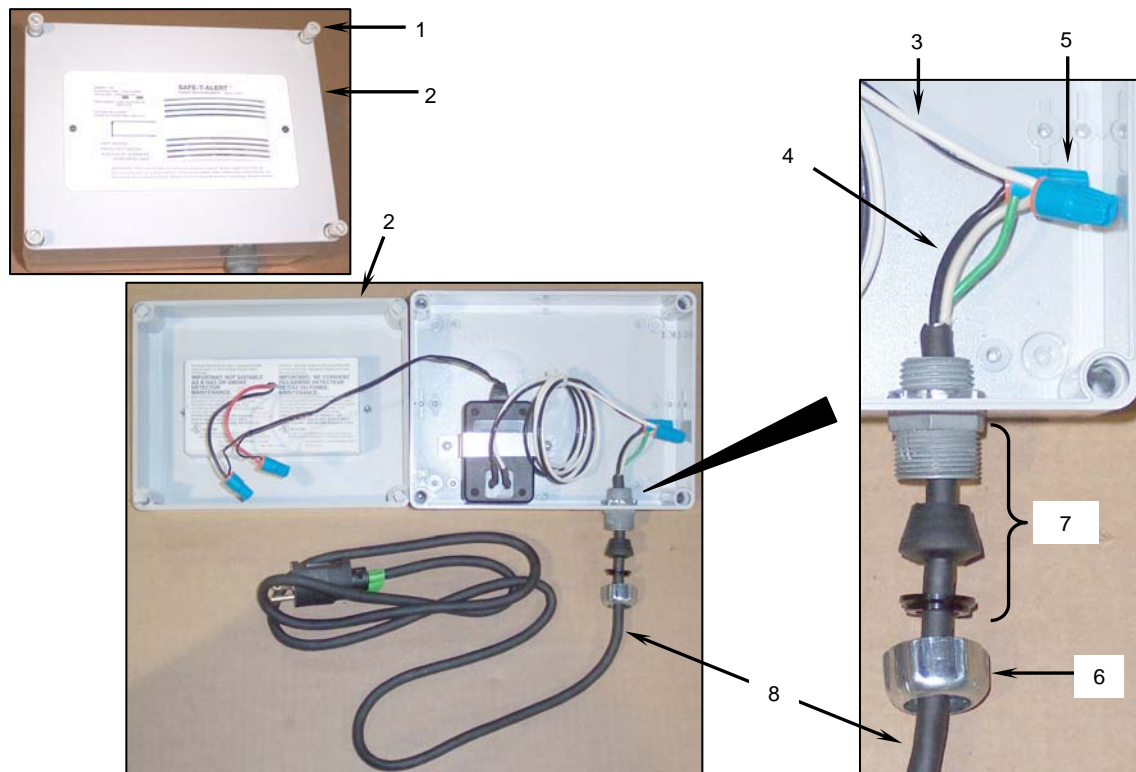

Figure 1. Replacing the CO Monitor Power Cable.
- a. Loosen the four captive screws (**Figure 1, Item 1**) at the front corners of the CO monitor and separate the front cover (**Figure 1, Item 2**) from the enclosure.
- b. Tag the black and white power supply wires (**Figure 1, Item 3**) that are connected to the black and white power cable wires (**Figure 1, Item 4**) with two wire nuts (**Figure 1, Item 5**).
- d. Loosen the cable ring nut (**Figure 1, Item 6**) from the power cable straight connector (**Figure 1, Item 7**).
- e. Pull the power cable (**Figure 1, Item 8**) out through the straight connector and sealing washers (**Figure 1, Item 7**) and the ring nut. Retain the ring nut and sealing washers.
- a. Insert the end of the new power cable (**Figure 1, Item 8**) through the cable ring nut (**Figure 1, Item 6**) and straight connector sealing washers and connector (**Figure 1, Item 7**) into the enclosure.
- b. Twist the two power cable wires (**Figure 1, Item 4**) and the two power supply wires (**Figure 1, Item 3**) together, white to white and black to black. Secure using two new, watertight wire nuts (**Figure 1, Item 5**).
- c. Tighten the cable ring nut (**Figure 1, Item 6**) onto the straight connector (**Figure 1, Item 7**).
- d. Place the enclosure cover (**Figure 1, Item 2**) onto the enclosure and secure with the four captive screws (**Figure 1, Item 1**).